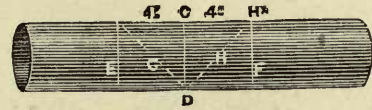
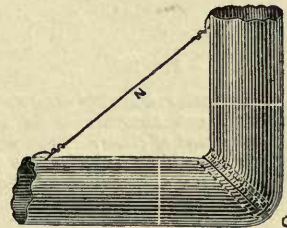
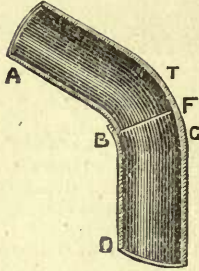
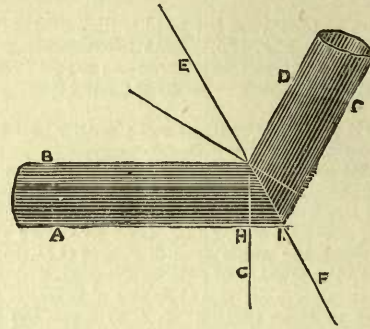

FIG. 162.
FIG. 164.
FIG. 165.
FIG. 168.
been worked out. If you want a 4 in. square elbow, as at Fig. 164, mark the pipe all round as at C D, Fig. 162.
enter. Also see section at A B, Fig. 165, which illustrates the way the lap should run when the pipe is fixed. Then soil to the lines (about 5 in. each way) J K, Fig. 163, and shave it to the lines L, M, so as to make the joint look about  $1\frac{1}{2}$  in. wide, when the elbow is pulled up; next pull the elbow up as at Fig. 164 (but do not pull it up before you
are sure that it will fit, because if you bend the back lead two or three times, you will be apt to break this back lead, so that once pulling up should suffice). Close the sides and knock the corners round, as also shown at O; then with a piece of string, tie as at N, and it is ready for soldering. Instead of string, you may use a strap of lead nailed on a stick to stiffen it, or you can burn the lead so as to keep it steady whilst soldering, which is done as follows: Place the lead pipe upon two pieces of quartering, &c., or on your soil pipe blocks; let its other end stand up as at Fig. 164;
N.B.—If you wish to leave *much* back or uncut lead, as at O, Fig. 164, you must cut your lines G H, Fig. 162, accordingly (a little shorter). Of course the corners are gently rounded after you have shaved, and the elbow pulled up
length of floor-line from wall to the *centre* of the pipe J. Now set the work out (generally on the floor) full size, first draw the floor line R Q, then the ceiling line, then the wall line R U, then the pipe lines 2 Q U, &c. Next refer to Figs. 168 and 169. Here the line E F, Fig. 169, repre-
the meeting point at the throat of the elbow, as shown at D. Now measure the distance from the square line G to F, or from H to I, Fig. 168, and that distance marked round the pipe, as at E F, Fig. 162, will be the cutting point across the intended throated part, as shown at A B C, Fig. 167, when the elbow may be soiled, shaved, and soldered as before directed.